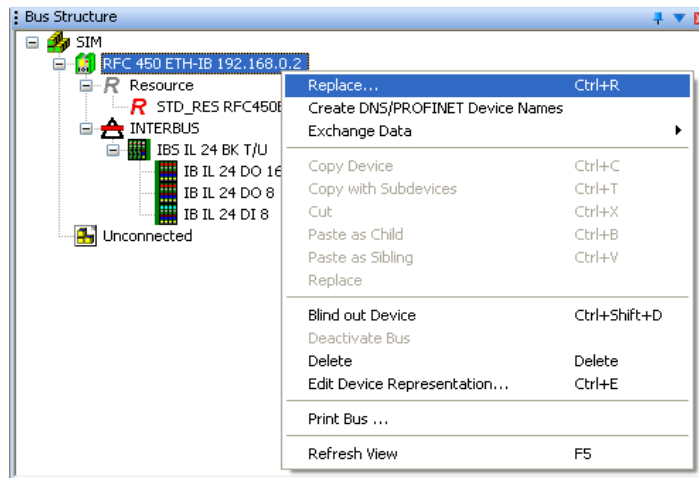
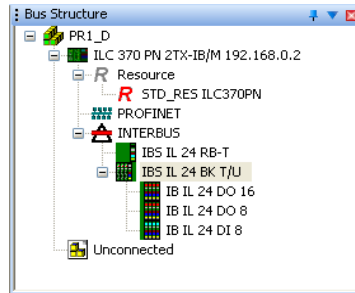

Figure A-3 Replacing a device
Figure A-7 Bus configuration with new controller
- In the "Bus Structure" window, select the controller to be replaced (RFC 450 ETH-IB in Figure A-3 on page A-10).
In the example, an INTERBUS controller was replaced with a PROFINET IO controller. When comparing the bus topology in Figure A-3 and Figure A-7, you can see that the structure has been adapted accordingly as a result of replacing the controller. The dedicated INTERBUS structure has been replaced by a PROFINET structure.